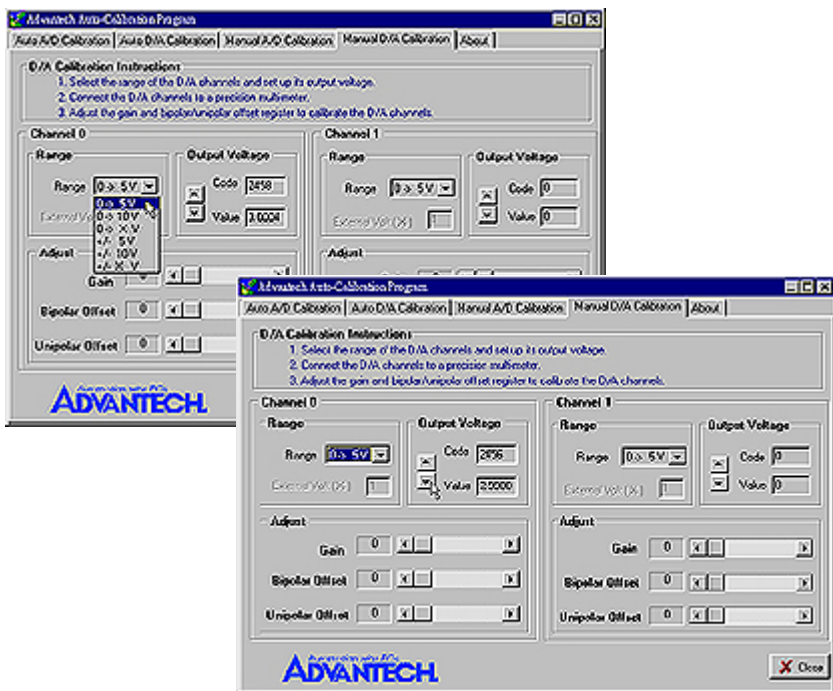

Figure 6-15 & Figure 6-16: Selecting D/A Range and Choosing Output Voltage
Step 2: For example, choose channel 0; select the Range and select the wished output voltage code or value from the radio buttons (Fig. 6-15 and Fig. 6-16).